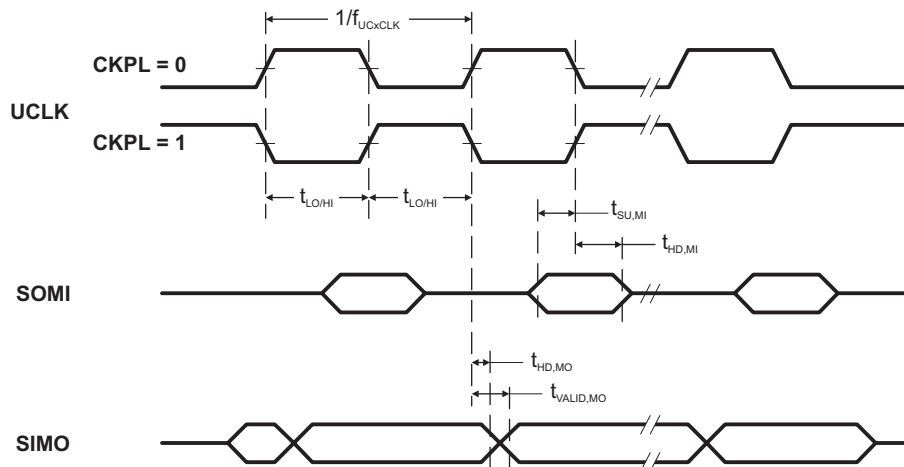
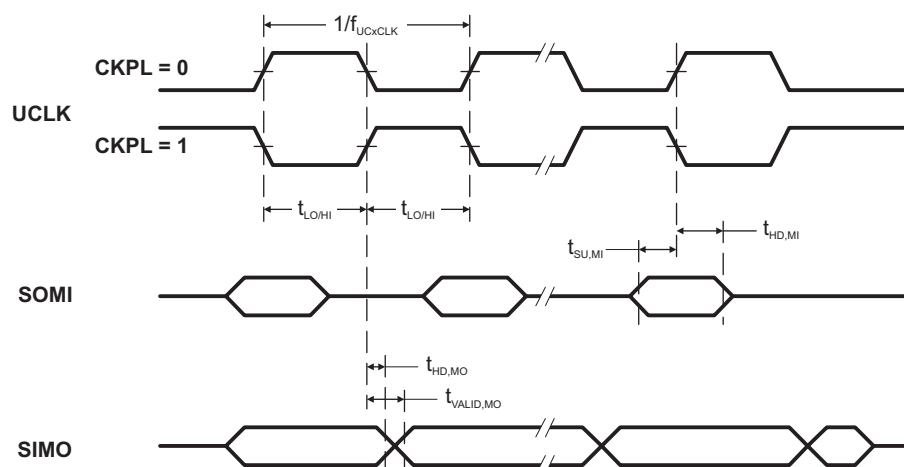

Figure 11. SPI Master Mode, CKPH = 0
Figure 12. SPI Master Mode, CKPH = 1
(see Note ⁽¹⁾, Figure 11 and Figure 12)
- (1) f_{UCXCLK} = 1/2(t_{LO/Hi} with t_{LO/Hi} ≥ max(t_{VALID,MO(USCI)} + t_{SU,SI(Slave)}, t_{SU,MI(USCI)} + t_{VALID,SO(Slave)}). For the slave's parameters t_{SU,SI(Slave)} and t_{VALID,SO(Slave)} see the SPI parameters of the attached slave.
- (2) Specifies the time to drive the next valid data to the SIMO output after the output changing UCLK clock edge. See the timing diagrams in Figure 11 and Figure 12.
- (3) Specifies how long data on the SIMO output is valid after the output changing UCLK clock edge. Negative values indicate that the data on the SIMO output can become invalid before the output changing clock edge observed on UCLK. See the timing diagrams in Figure 11 and Figure 12.
(2) Specifies the time to drive the next valid data to the SOMI output after the output changing UCLK clock edge. See the timing diagrams in Figure 11 and Figure 12.
(3) Specifies how long data on the SOMI output is valid after the output changing UCLK clock edge. See the timing diagrams in Figure 11 and Figure 12.